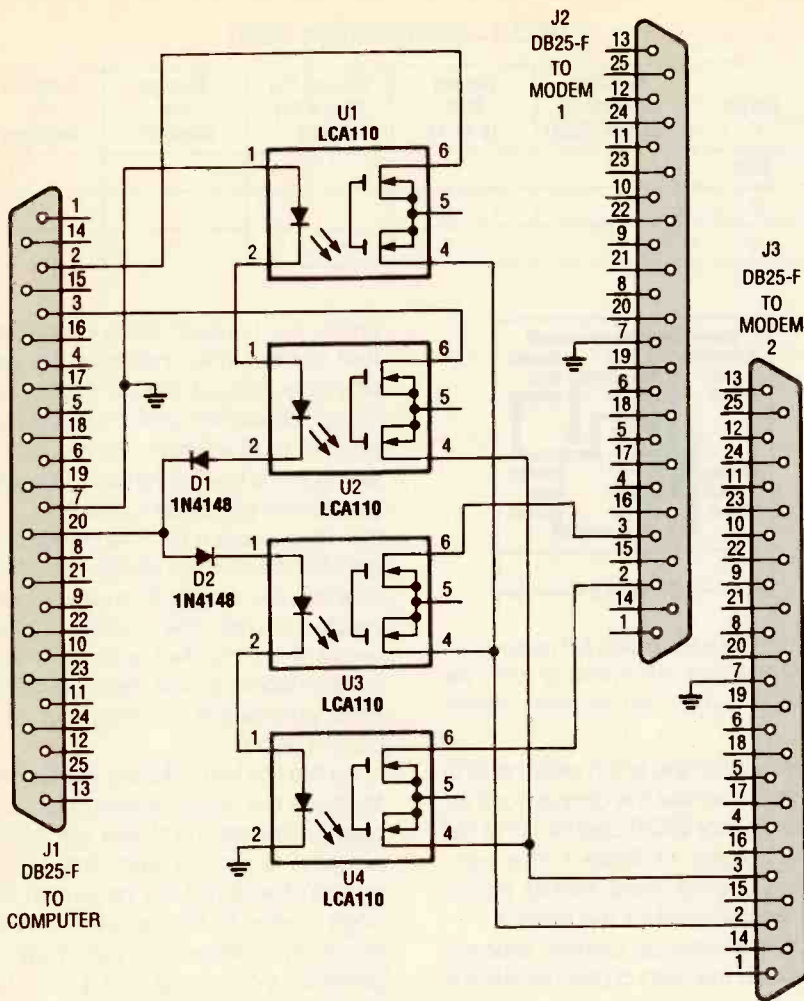

Fig. 4. Our application circuit for the A/B switch (shown here) allows a computer to interrupt one modem to talk with another.
**Our Application.** Take a look at the version of the A/B Switch circuit shown in Fig. 4. Note that pins 2 and 3 of J3 (the connector to modem 2) are connected to the poles of the switch. That way, the circuit can switch J3 (the poles) between J1 (which you can think of as position A) and J2 (or position B).